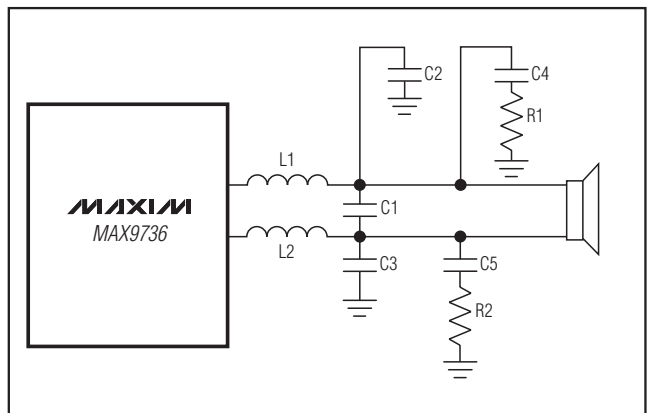

Figure 4. Output Filter for PWM Mode
Some applications use the MAX9736 with a full inductor-capacitor-based (LC) output filter. Select the PWM output mode for best audio performance. See Figure 4 for the correct connections of these components.